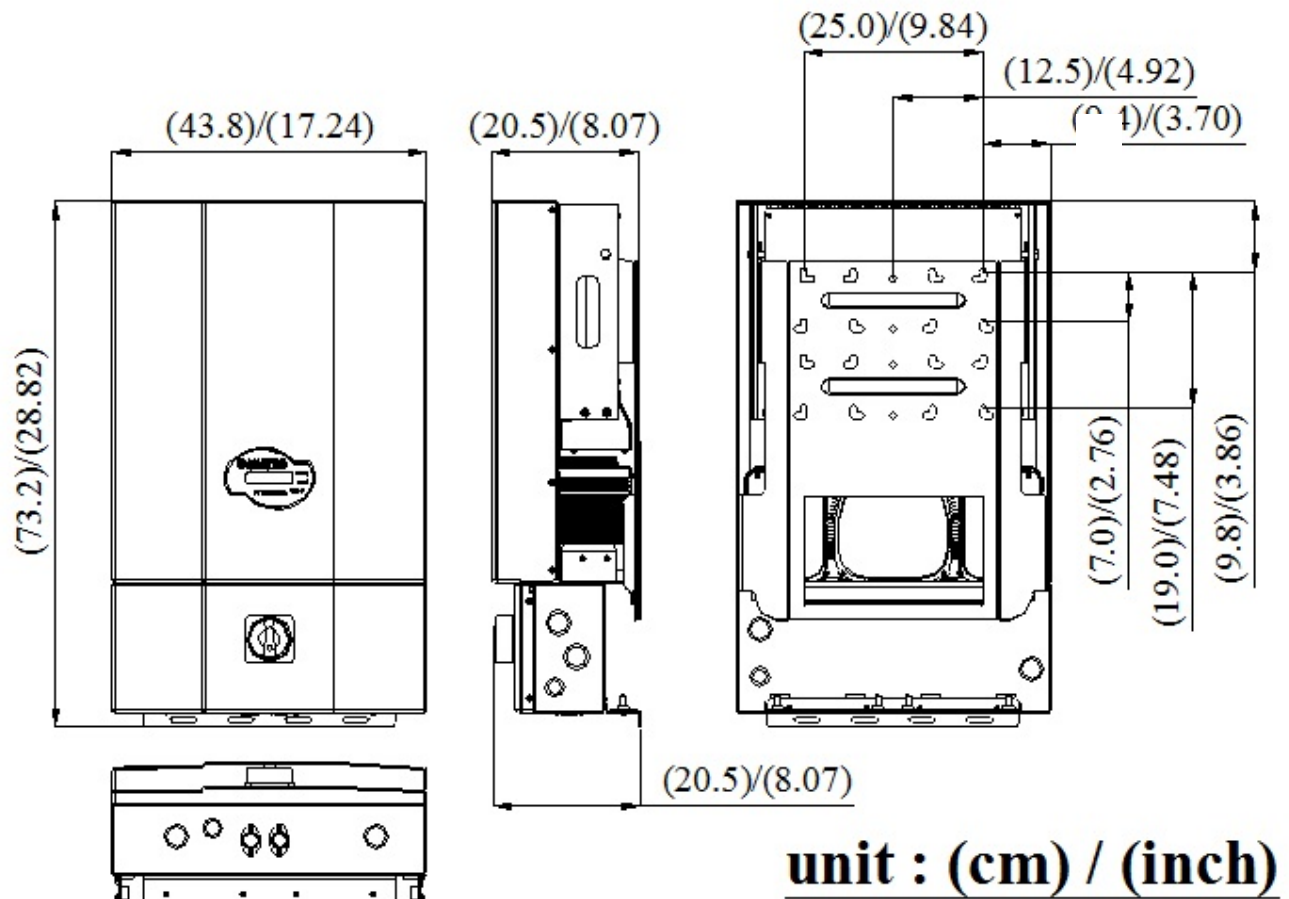

Fig. 2.2.1 PVI 6500/7500 Dimensional Diagram
- Use the dimensional diagrams in Fig. 2.2.1 and 2.2.2, for correct mounting of the inverter.